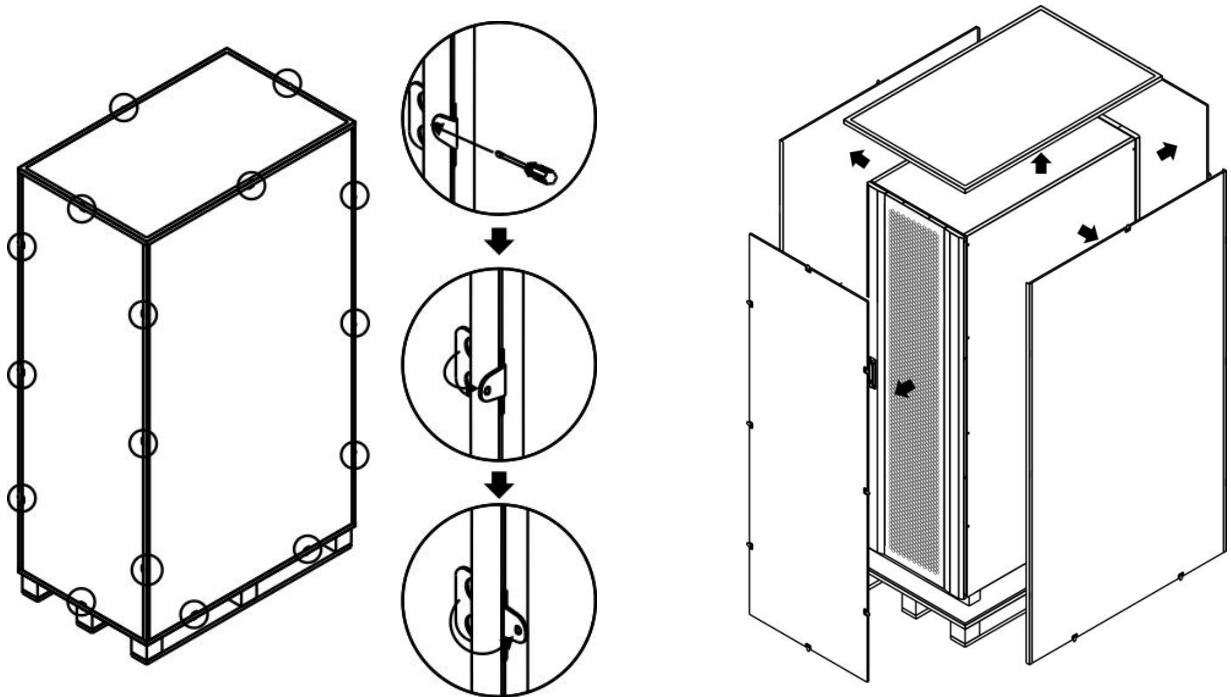

Figure 2-2
- (2) Please remove wooden case and foam according to order figure 2-2.